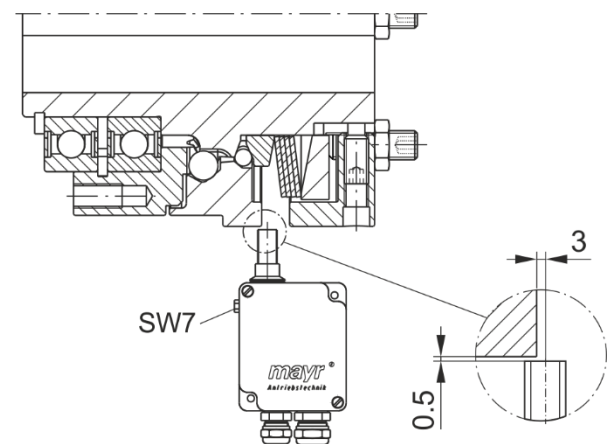

Fig. 21
In order to limit run-out times after overload has taken place, a limit switch must be mounted onto the overload clutch. The contactless limit switch is to be mounted onto the switching edge of the clutch (Fig. 21) so that no signal changes are caused during normal operation on the limit switch by the usual clutch run-out errors.
Adjust the switch distances for the contactless limit switch acc. Fig. 21. The distance from the switching point to the thrust washer (3) can be finely adjusted using a hexagon head screw, wrench opening 7.